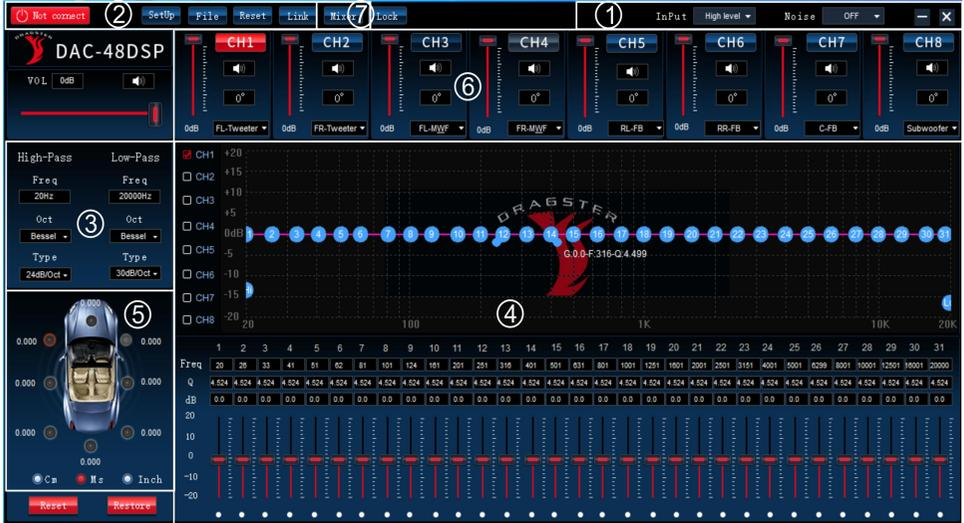
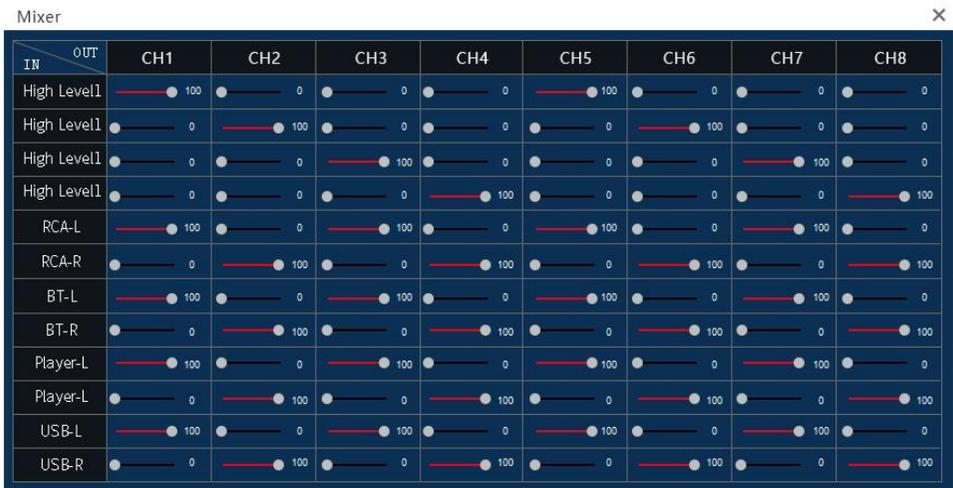

Figure 3.2.2
figure 3.3.14
1. as shown in figure 3.2.2, "1", input signal selection: high level, low level, Bluetooth, Coaxial, Optical, player.
2. as shown in figure 3.2.2 "2", shows the main menu and connection status.
3. as shown in figure 3.2.2 "3", the high-pass and low-pass Settings of the divider.
4. as shown in figure 3.2.2, "4", area is output channel EQ setting.
5. as shown in figure 3.2.2, "5", shows the setting of delay space.
6. as shown in figure 3.2.2, "6", output channel configuration and common parameter adjustment area.
7. as shown in figure 3.2.2, "7", shows the setting of Mixer space.
In the online mode, in Figure 3.2.2 "1", click the appropriate input source, you can switch the audio input signal.
"6" area, click on the corresponding channel number in Figure 3.2.2 (CH1, CH2 CH8), you can switch to the corresponding channel to adjust relevant parameters when changing the channel editing, where there are only 3.2. 2 "4" zone (crossover and equalization parameters) will vary depending on the channel and change the parameter values.
Mixer settings: click "mixer" in the "7" area in Figure 3.2.2, then you can switch to (Figure 3.3.14) the relevant parameter settings for the corresponding adjustment.